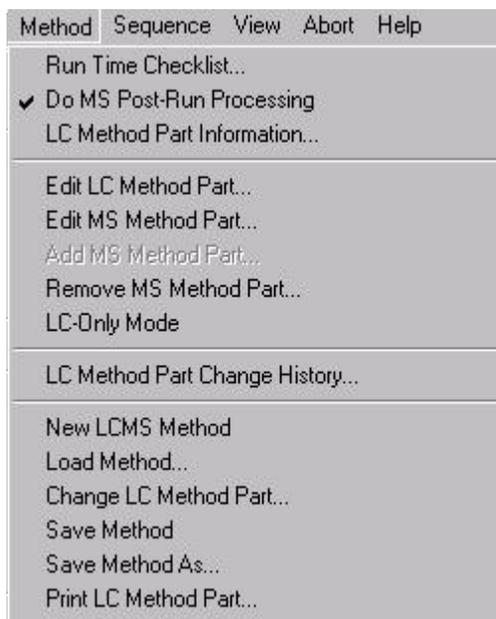

Figure 29 ChemStation Method menu for LC-only method
- The LC-only flag is not a method parameter and is not stored with method. This flag does not appear for LC-only methods (Figure 29).